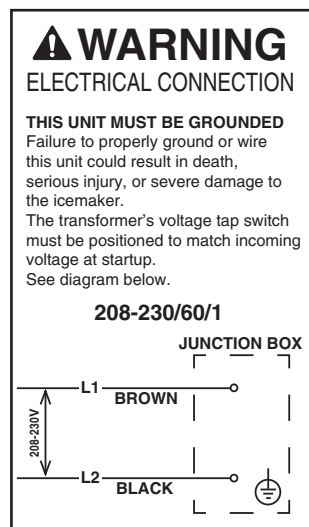

Fig. 8a
4. Electrical connection must be made in accordance with the instructions on the "WARNING" tag, provided with the pig tail leads in the junction box. See Fig. 8a and 8b.